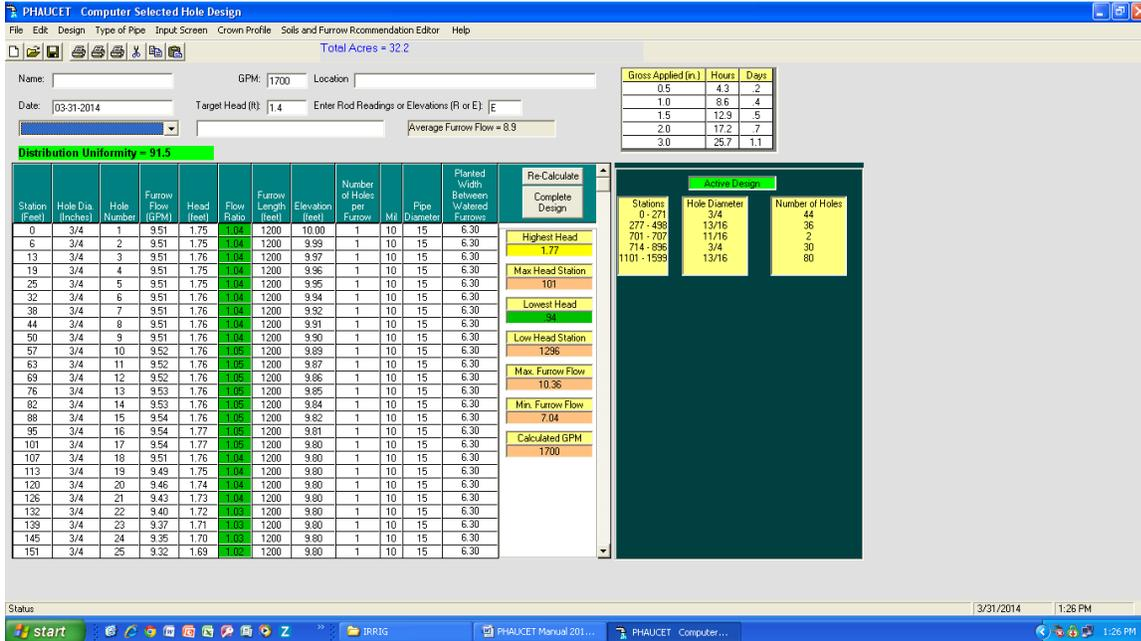

Figure 3.4 – Example 3 CSH Design
**STEP 2:** Select Computer Hole Selection from the design menu. Increase the target head to 1.4 in order to reduce the number of recommended hole sizes then hit recalculate (fig. 3.4). When using CSH, the Target Head should be adjusted up or down to determine the most practical design. Check Highest Head after each design calculation to make sure it is within the acceptable range for the mil thickness being used (Rule of Thumb 2).